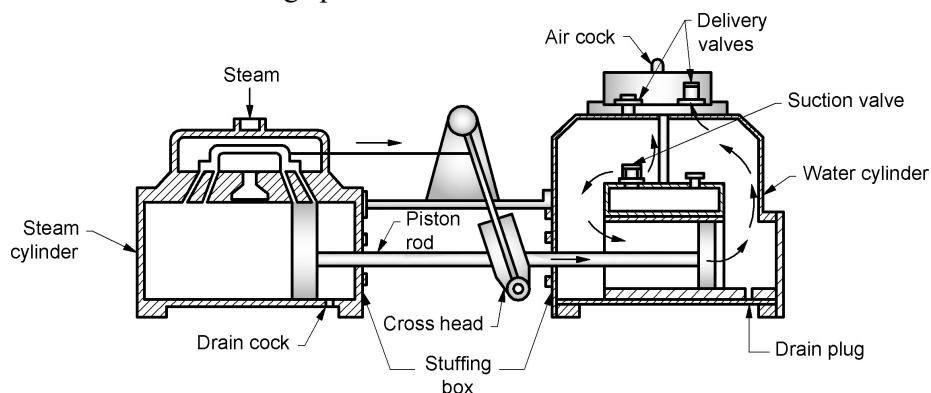

Fig. 2.11 Duplex feed pump
- (1) Fig. 2.11 shows schematic diagram of duplex reciprocating feed pump. Duplex pump consists of two steam cylinders and two water cylinders which are placed side by side.
- (2) Each pump has one steam and one water cylinder. Steam enters from one end of steam cylinder, moves the piston and exits from the other side.
- (3) A D-slide valve controls the admission and exhaust of steam. The slide valve in each cylinder steam chest is operated by the cross head on the piston rod of the opposite cylinder through an arrangement of rods and levers.
- (4) The piston of steam cylinders is connected with piston of water cylinders. Movement of the piston towards the right side in water cylinder creates positive pressure on right side and negative pressure on the left side.
- (5) Positive pressure opens the delivery valve and closes the suction valve on right side, hence water is delivered to the boiler through the feed check valve. When the piston changes the direction of motion, suction and delivery sides are also reversed.
- (6) Duplex type reciprocating pumps are commonly used for medium size boiler. Centrifugal pumps are used for small as well as large plants.